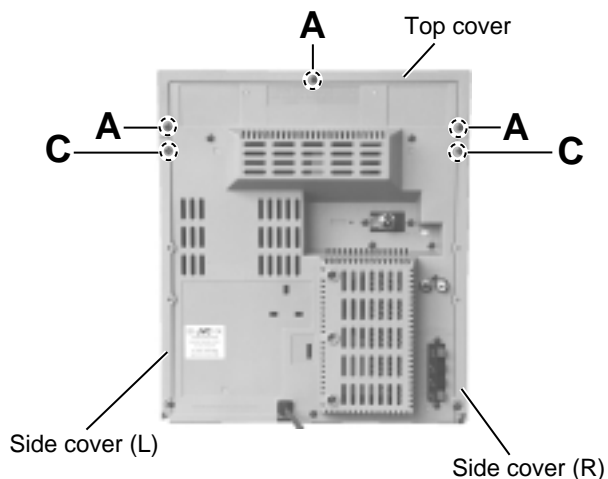

Fig.1
■ Removing the top cover & the side covers (See Fig.1 to 3)